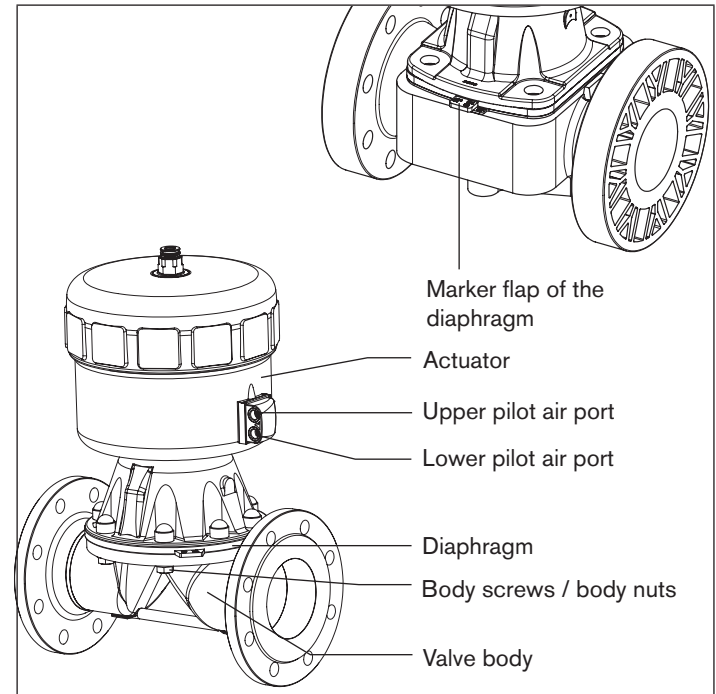

Fig. 15: Repairs
The marker flap of the diaphragm must be perpendicular to the direction of flow (see "Fig. 15")!
The marker flap of the diaphragm must be perpendicular to the direction of flow (see “Fig. 15”)!
- Pressurize upper pilot air **port** of the actuator with compressed air (5 bar) (see “Fig. 15”).